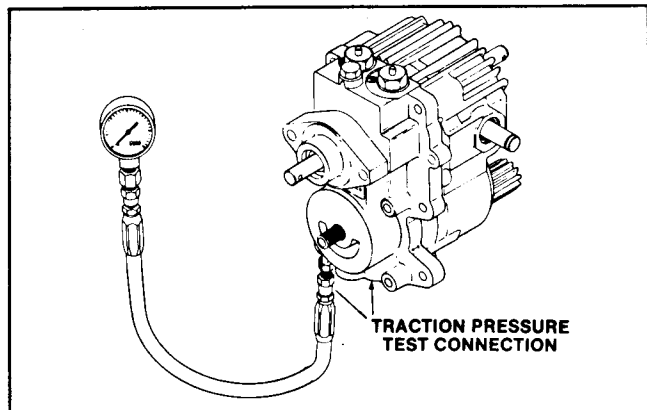

Figure 13b
3. Connect the high pressure hydraulic gauge hose to the gauge port (Fig. 13b). Use only clean, hydraulic fittings.